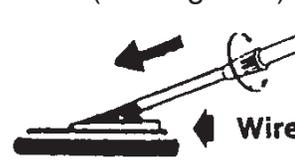

Figure 2
- Turn locknut clockwise until it becomes loose (see Figure 1). Adjust the stem so when you are standing upright with the detector in your hand, the search coil is level with and about 1/2 to 2 inches above the ground when your arm is relaxed at your side (see Figure 2).